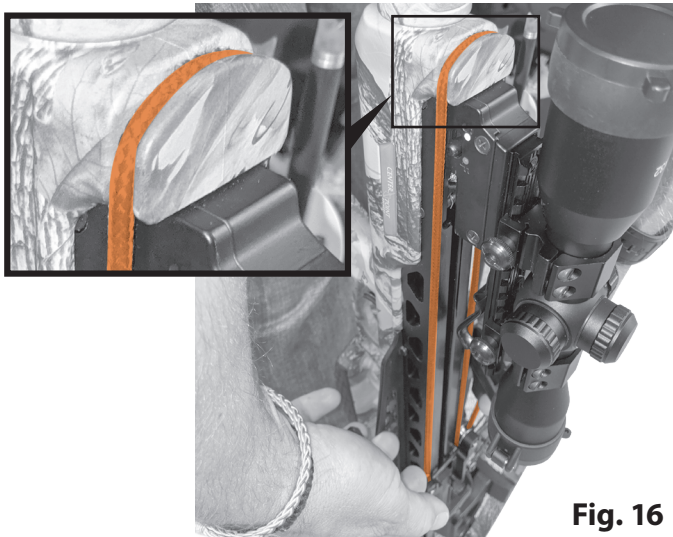

Fig. 16
2. Place the center of the cocking rope in the rope groove (Fig. 16).
CAUTION: Make sure that the rope is seated in the rope groove on the stock, as shown in Fig. 16. Make sure that the rope is parallel to the rail and the rope runs unobstructed from the rope groove to the pulley wheel on the sled. Failure to make sure that rope runs unobstructed, may cause damage to the sled, the crossbow and/or cause injury to the user.